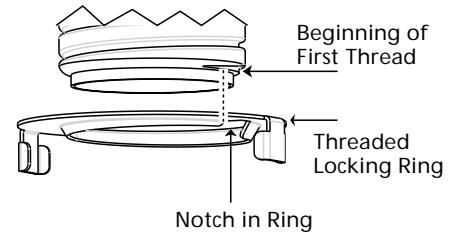

Figure 11d - Assembling the Locking Ring
**Note:** As shown in Figure 11d, line up the beginning of the first thread on the lampholder and notch on the locking ring to avoid cross threading the ring. If the ring becomes hard to turn, rotate the ring counter clockwise to loosen and reposition. Do not force the ring on.